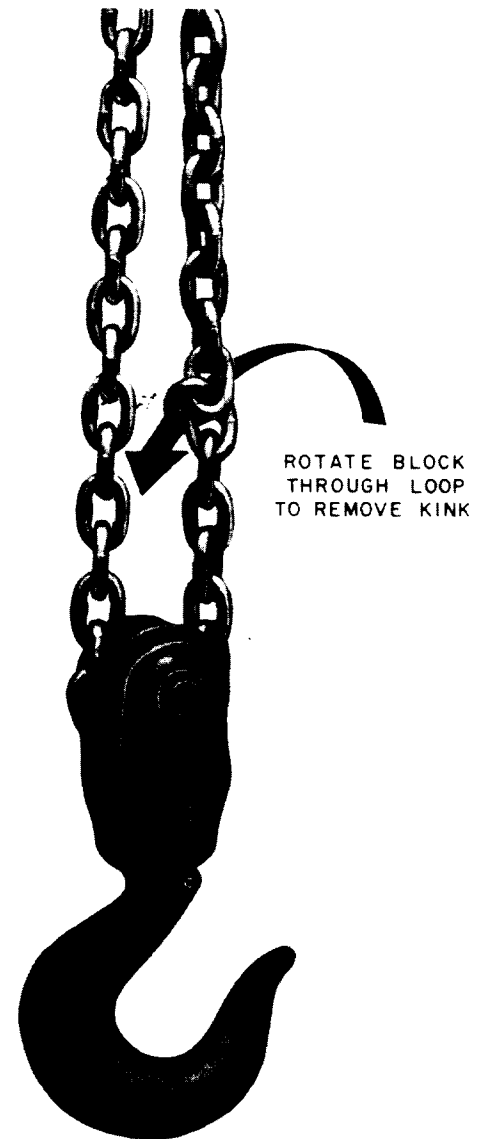

Fig. 2—Removing Kink from 3-Ton Hoist Chain
3.13 When using a hoist, be sure there are no kinks in the chain. In a 3-ton hoist, this will occur if the block and load hook is rotated through the loop of chain between the housing and the block. To remove the kinks, rotate the block and load hook through the loop of chain in the opposite direction (see Fig. 2).